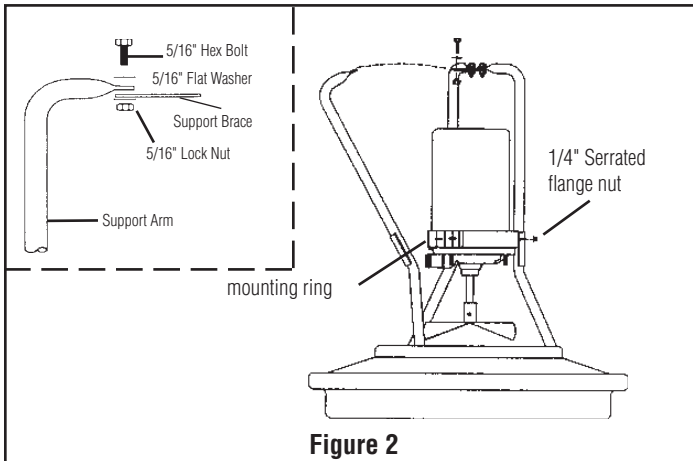

Figure 2
2. Turn the unit upside down. Remove (2) of the 5/16" bolts and locknuts from the support arm/brace. See Figure 2.
3. Remove the 1/4" flange nuts from the mounting ring at two support arm locations. Remove the two support arms. See Figure 2.
5. Remove the (8) screws from the top manifold